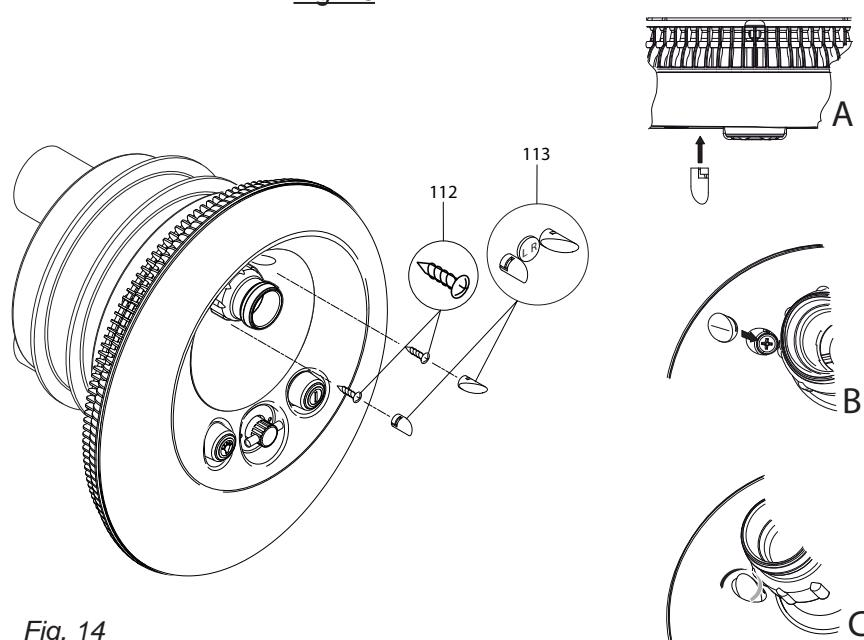

Fig. 14
- 11) Fasten the decorative caps (113) into the light cover (110) as shown in Fig. 14 A-C. Note that there are decorative caps for left (L) and right (R).